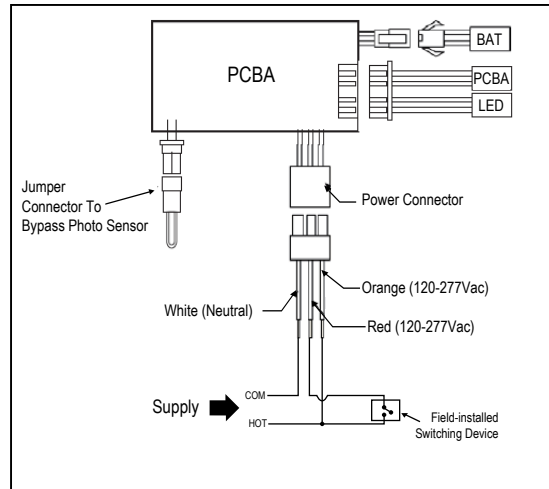

Figure 7
- d. Switched – Connect red wire to switch leg of the device that will be controlling the unit. Unit can be switched on and off. Unit will illuminate in emergency mode no matter what the position the switch device is in (See Figure 7).